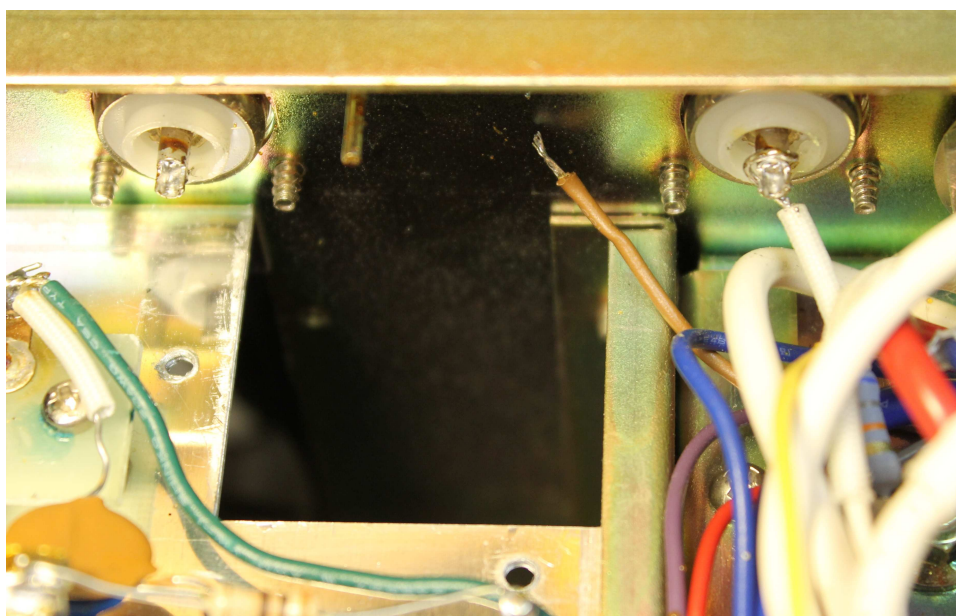

Figure 2.12: After Bias Relay Removal
NOTE: The filament transformer “CT” terminal is electrically connected to the filament choke via a “green” wire. In some amplifiers, this green wire attaches directly to the filament choke, then via jumper to the bias relay. In other amplifiers, this green wire attaches directly to the bias relay, then (via spaghetti-covered jumper) to the filament choke. This electrical connection between the filament choke and the filament transformer “CT” terminal must be retained. Ensure that the wire running from the filament transformer “CT” terminal is connected to the filament choke as shown to the far left in Figure 2.12.
When finished, there should be a small rectangular opening in the chassis, located between the “RF Input” and “RF Output” SO-239 connectors as shown in Figure 2.12.
- Follow the #22 brown wire shown in Figure 2.12 and de-solder it from the High-Voltage transformers’ “TH-1” terminal.